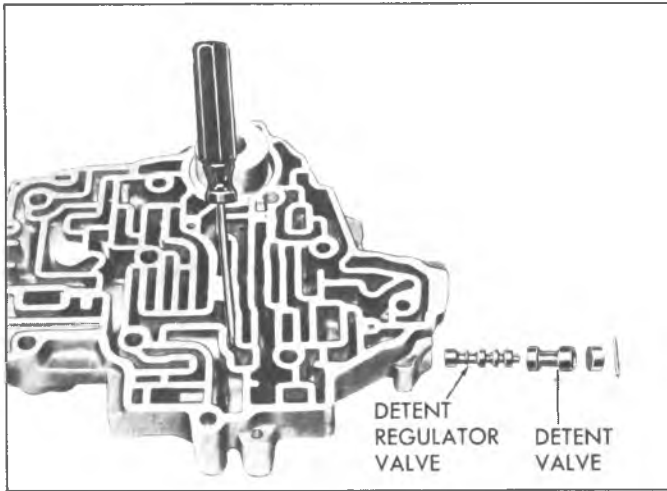

Fig. 56T--Installing Detent Regulator Valve and Detent Valve
4. In next bore up, install detent spring and spacer. Compress spring and secure with small screwdriver (fig. 56T).